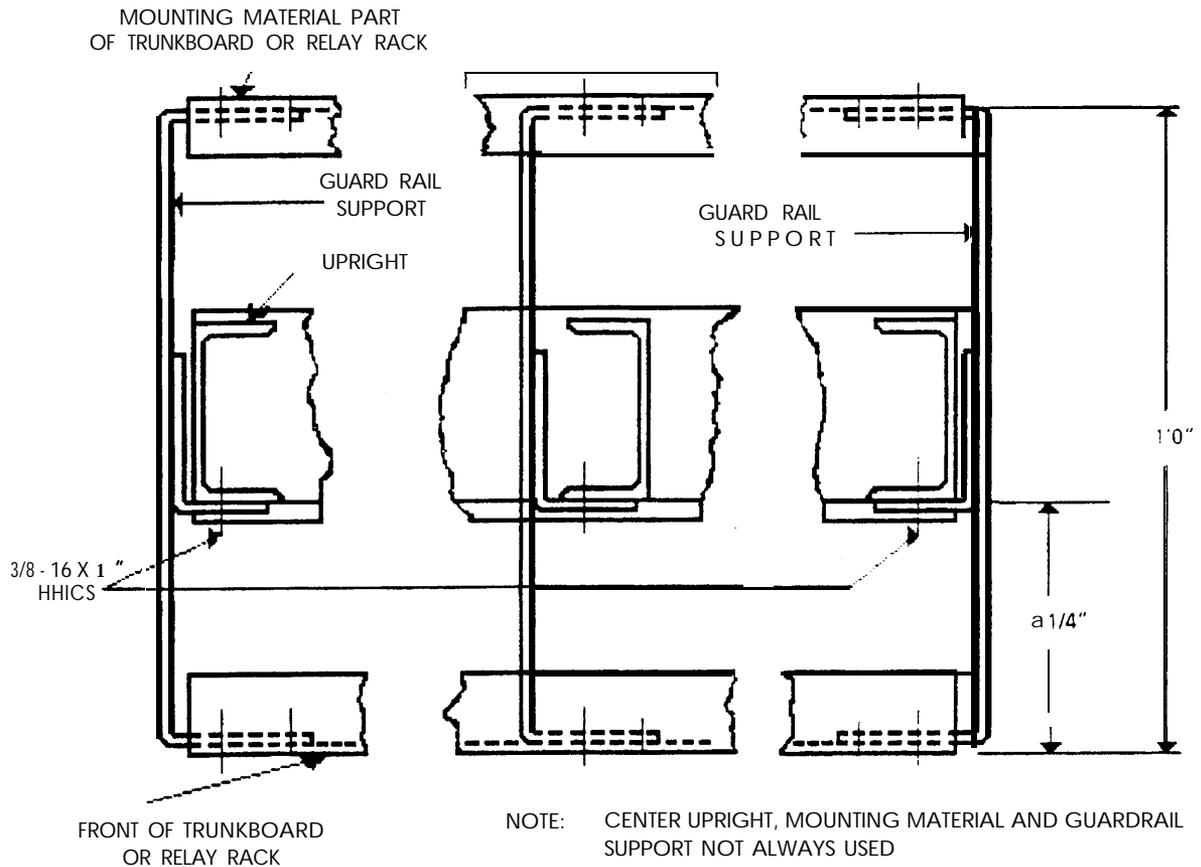
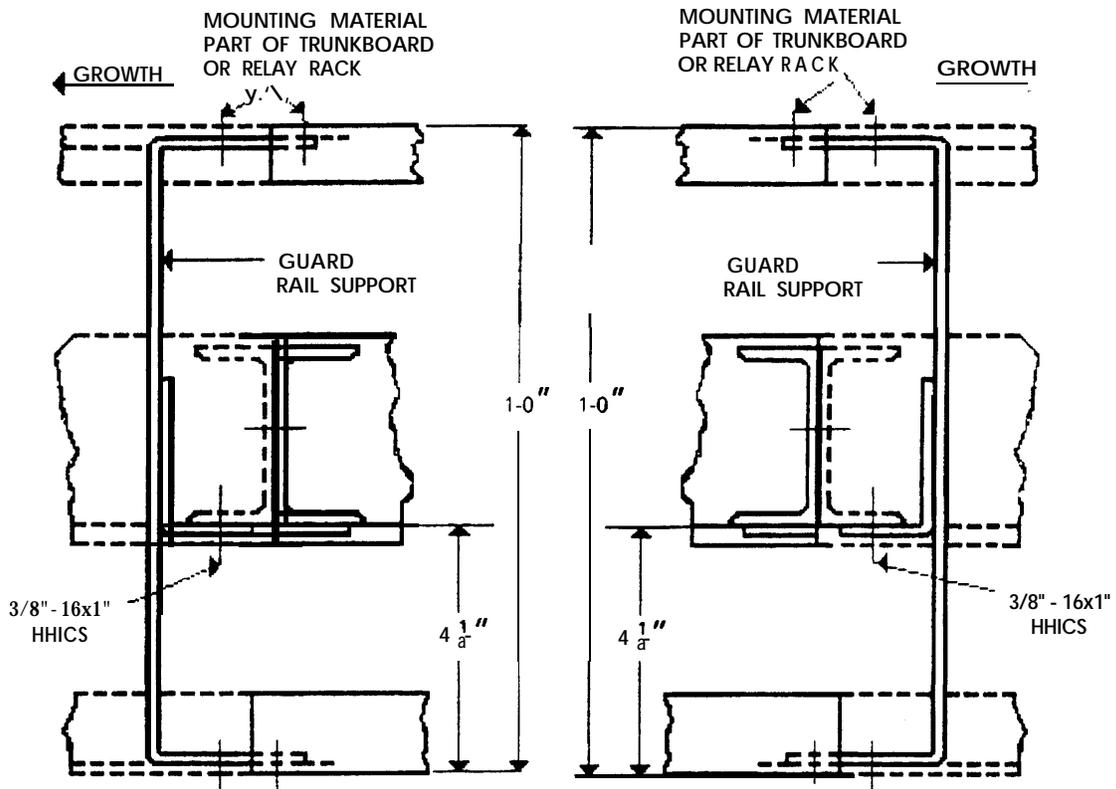

Figure 27. Typical Method of Using Guardrail Support as End Guards.
Figure 28. Typical Method of Mounting Guardrail Supports.
9.01 Assemble the guardrails and end guards in accordance with the associated method of assembly drawings and tighten securely. A typical method of using guardrail supports as end guards is shown in Figure 27. In some circumstances, when a bay terminates close to a wall or when two bays terminate near each other but are not adjoining, end guards may not be used and guardrail supports are used if a safety or operational hazard does not exist. When a continuing guardrail is to be installed, use the end mounting hole in the continuing guard rail (Figure 28).